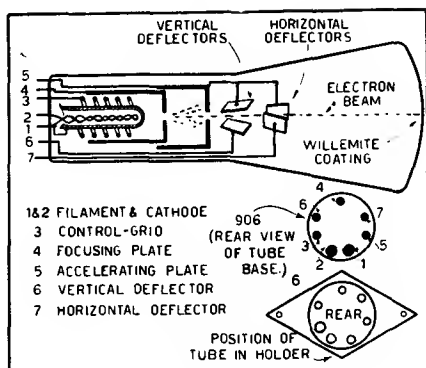

Fig. 54.
The seven elements are as follows (refer to Fig. 54): (1) filament; (2) cathode; (3) control-grid; (4) focusing plate; (5) accelerator plate; (6) vertical deflector; (7) horizontal deflector. A back view of the tube base shows where each element terminates. Numbers 1 and 2 connect to the filament which requires $2\frac{1}{2}$ V. at 1.75 A. The cathode is internally connected to the filament prong No. 1.